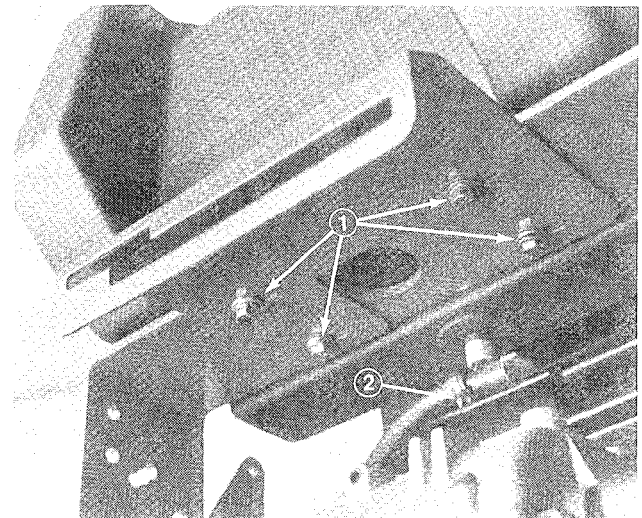

Figure 2
3. Secure fuel line to tank fitting with hose clamp (Fig. 2).
3. Move shift lever to reverse and 4th gear. Control panel mounting holes are slotted to enable it to be moved from side to side (Fig. 2). Position control panel as needed to achieve full shift range. Tighten mounting screws to a maximum of 90 in-lb. **DO NOT OVERTIGHTEN.**